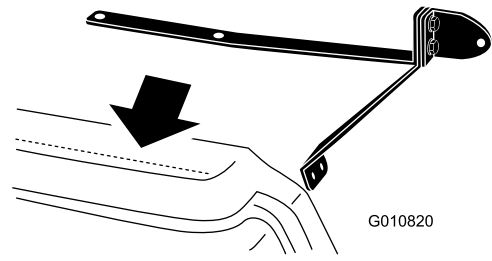

Figure 4
3. Position the upper mirror bracket holes onto the parallel line drawn on the dash (Figure 4).